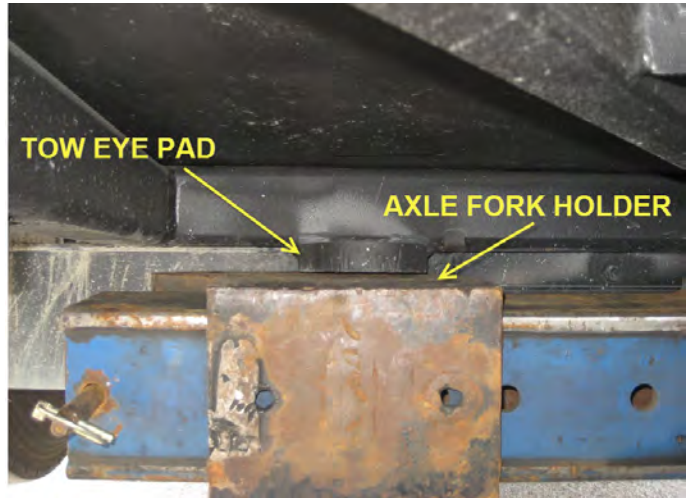

Figure 33
3. Deploy the tow truck stinger arm, placing the axle fork holders under the tow eye pads (Figure 33).